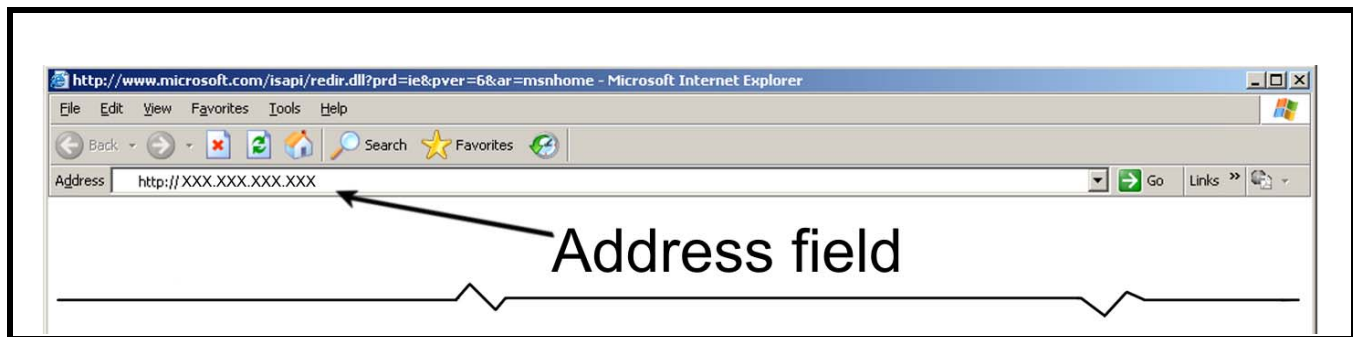

FIGURE 29. IP Address Entry
2. Enter the base **IP Address** of the C-6200 in the address field, shown in Figure 29.